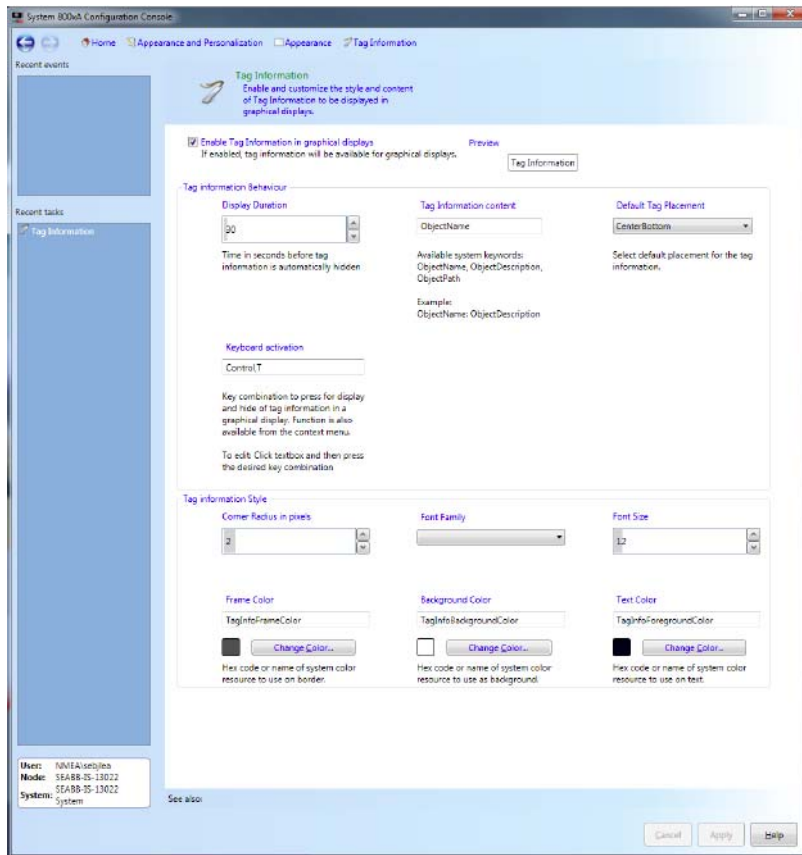

Figure 83. Enabling Tag Information
1. Select **ABB Start Menu > ABB Industrial IT 800xA > System > System Configuration Console > Appearance and Personalization > Appearance > Tag Information**, refer to Figure 83.